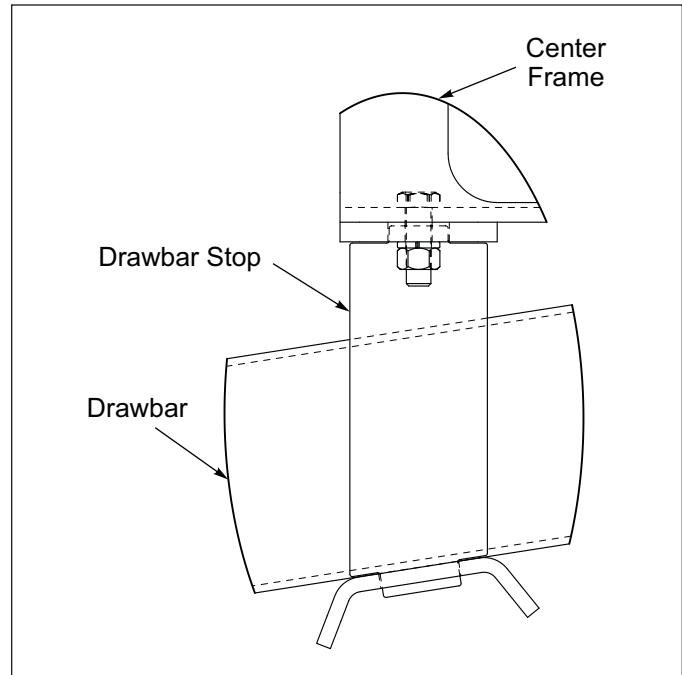

Figure 3-8: Drawbar Stop
2. Ensure the Drawbar Stop Is installed. **See Figure 3-8.** *The Drawbar Stop limits the drawbar vertical travel.*